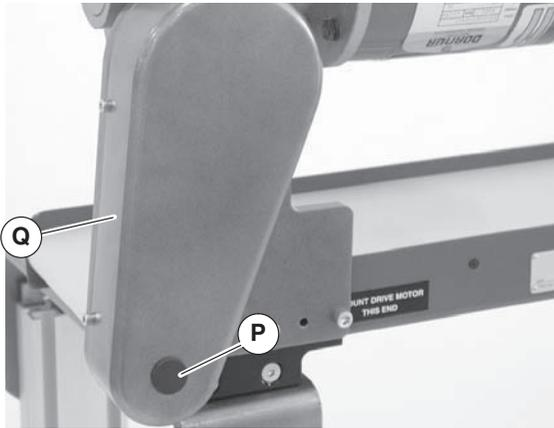

Figure 6
1. Remove plug (Figure 6, item P) from belt guard (Q).
5. Replace plug (Figure 6, item P).